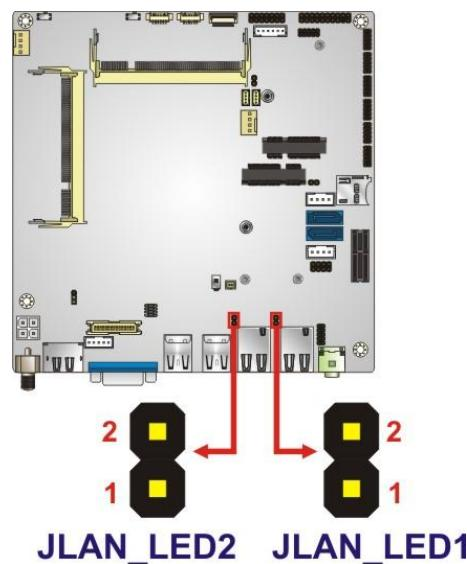

Figure 3-13: LAN LED Connector Locations
3.2.12 LAN LED Connectors**CN Label:** JLAN_LED1, JLAN_LED2**CN Type:** 2-pin header, p=2.00 mm**CN Location:** See **Figure 3-13****CN Pinouts:** See **Table 3-14**